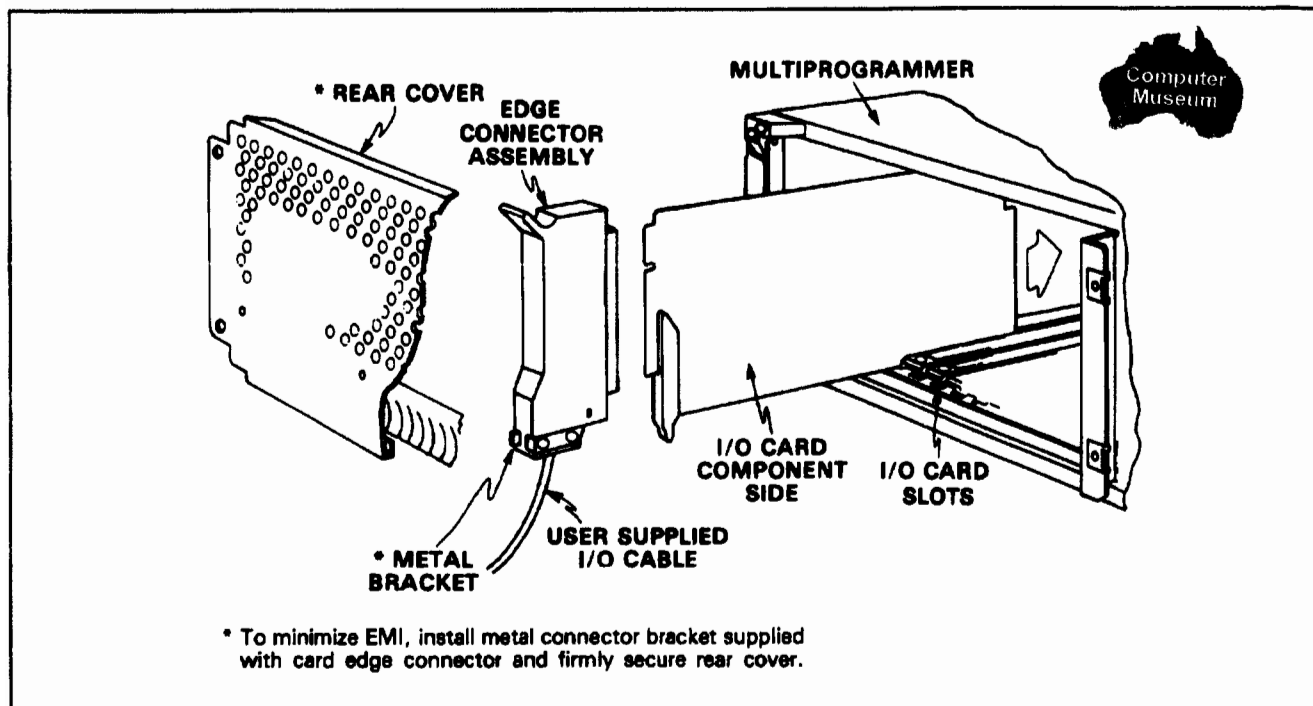

Figure 4-1. Installing I/O Cards in the Mainframe
- Loosen the captive fasteners securing the Multiprogrammer rear cover and remove the cover (see Figure 4-1).